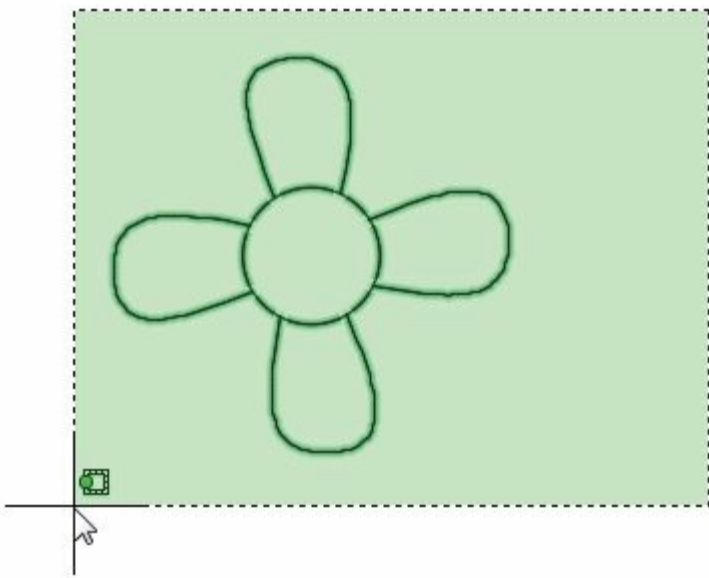

Figure-42. Objects being selected by window selection
- Select all the objects from the drawing area; refer to Figure-42.